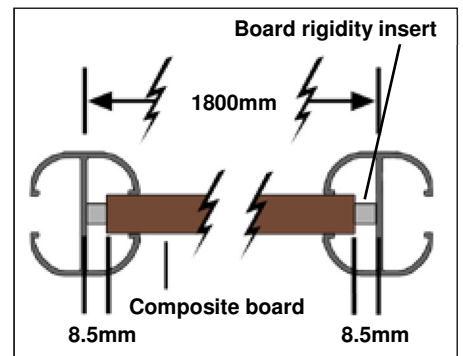
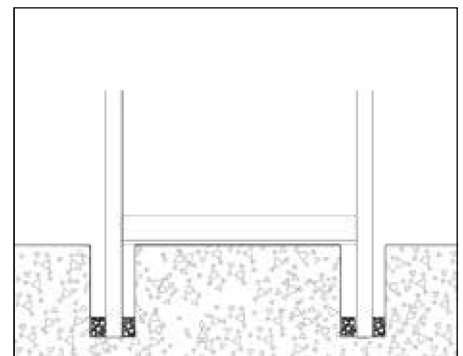

Figure 6
Figure 7
- B. Pre-position the posts in the holes. The posts must be spaced at 1800mm between the post centres, see **Figure 6**. Use a board rigidity insert (**72FPR18G**) as a spacer to get the distance correct. It is necessary to leave a gap of 17mm between the fence board and the centre rib of the posts (8.5mm either side) and the board rigidity insert (**72FPR18G**) will allow for this. See **Figure 7**.